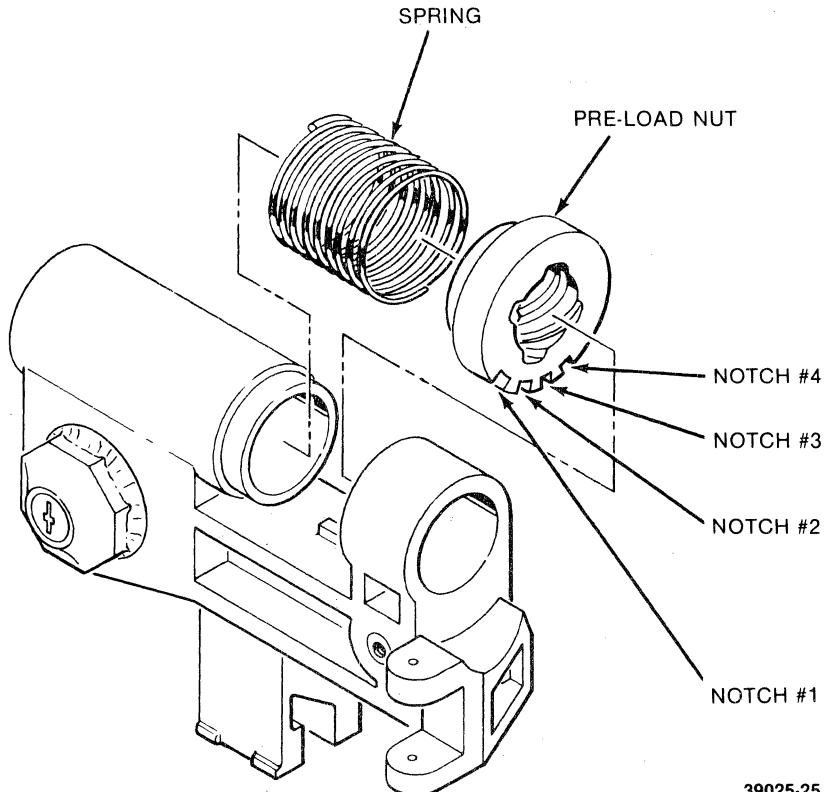

FIGURE 5-9. CARRIAGE ASSEMBLY
- g. If installing a new carriage, set pre-load nut in #2 notch. See figure 5-9.